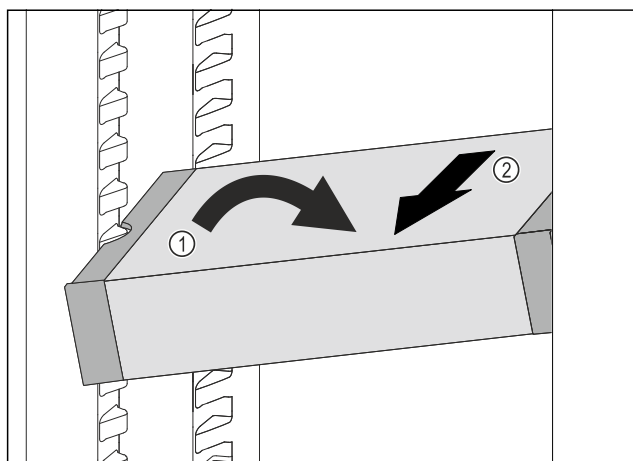

Fig. 116
- Set VarioSafe in refrigerator compartment at an angle. Fig. 116 (1)
- Take VarioSafe out to the front. Fig. 116 (2)